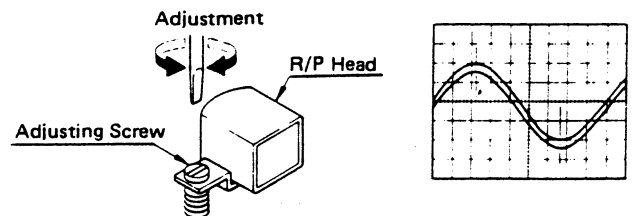

FIG. 9. AZIMUTH ADJUSTMENT
- Adjust the azimuth adjustment screw of left side of record/play head for maximum output and for the same channel phase. (see Fig. 9).